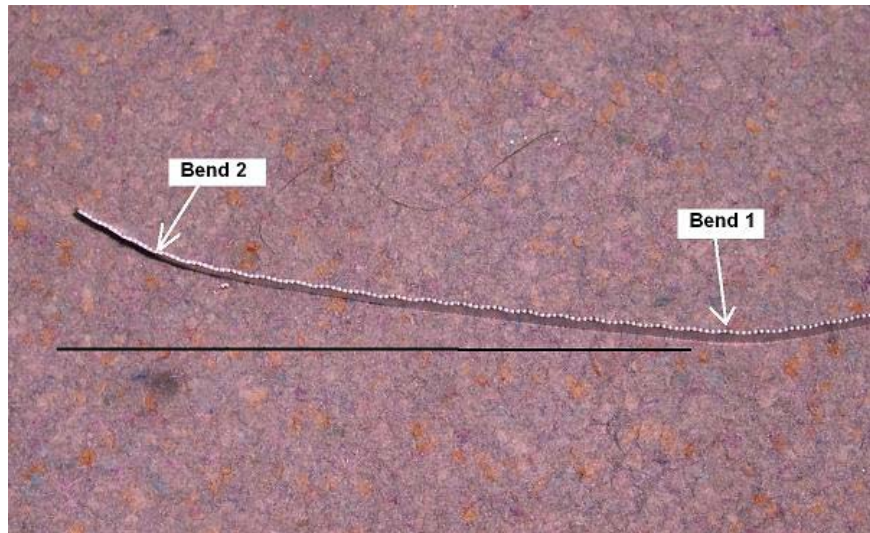

Fig. 2
3. Make 2nd bend in tip of blade approximately 3/4-inch long as shown in Fig. 2